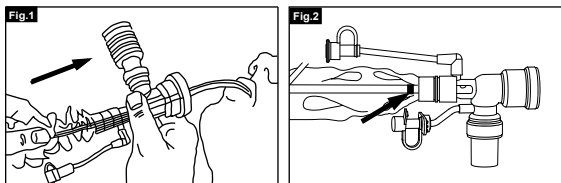

Fig. 1
1. Always stabilize TruTest® Closed Suction System and endotracheal (ET) adapter with one hand while pushing the catheter into the endotracheal tube with the thumb and forefinger of the opposite hand (Fig. 1).